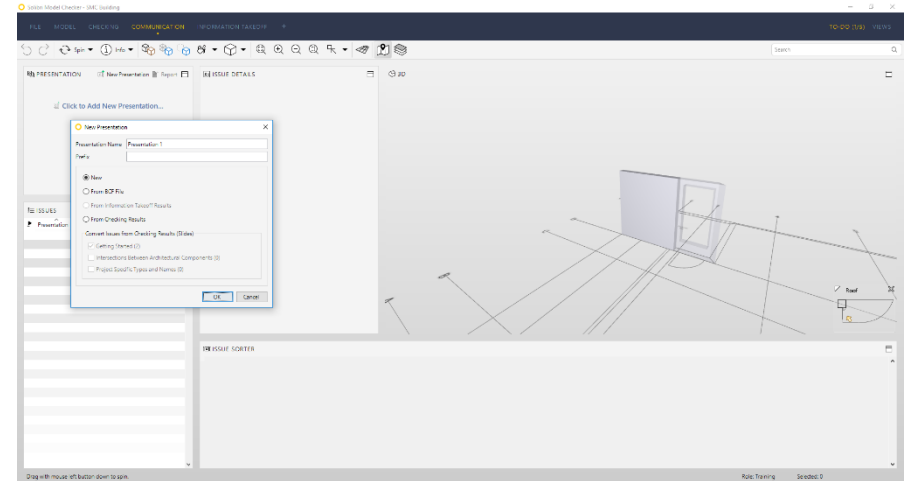

Figure 66: Converting Results to Presentation
- 1) Click the line "Click to add New Presentation..." (see Figure 66).